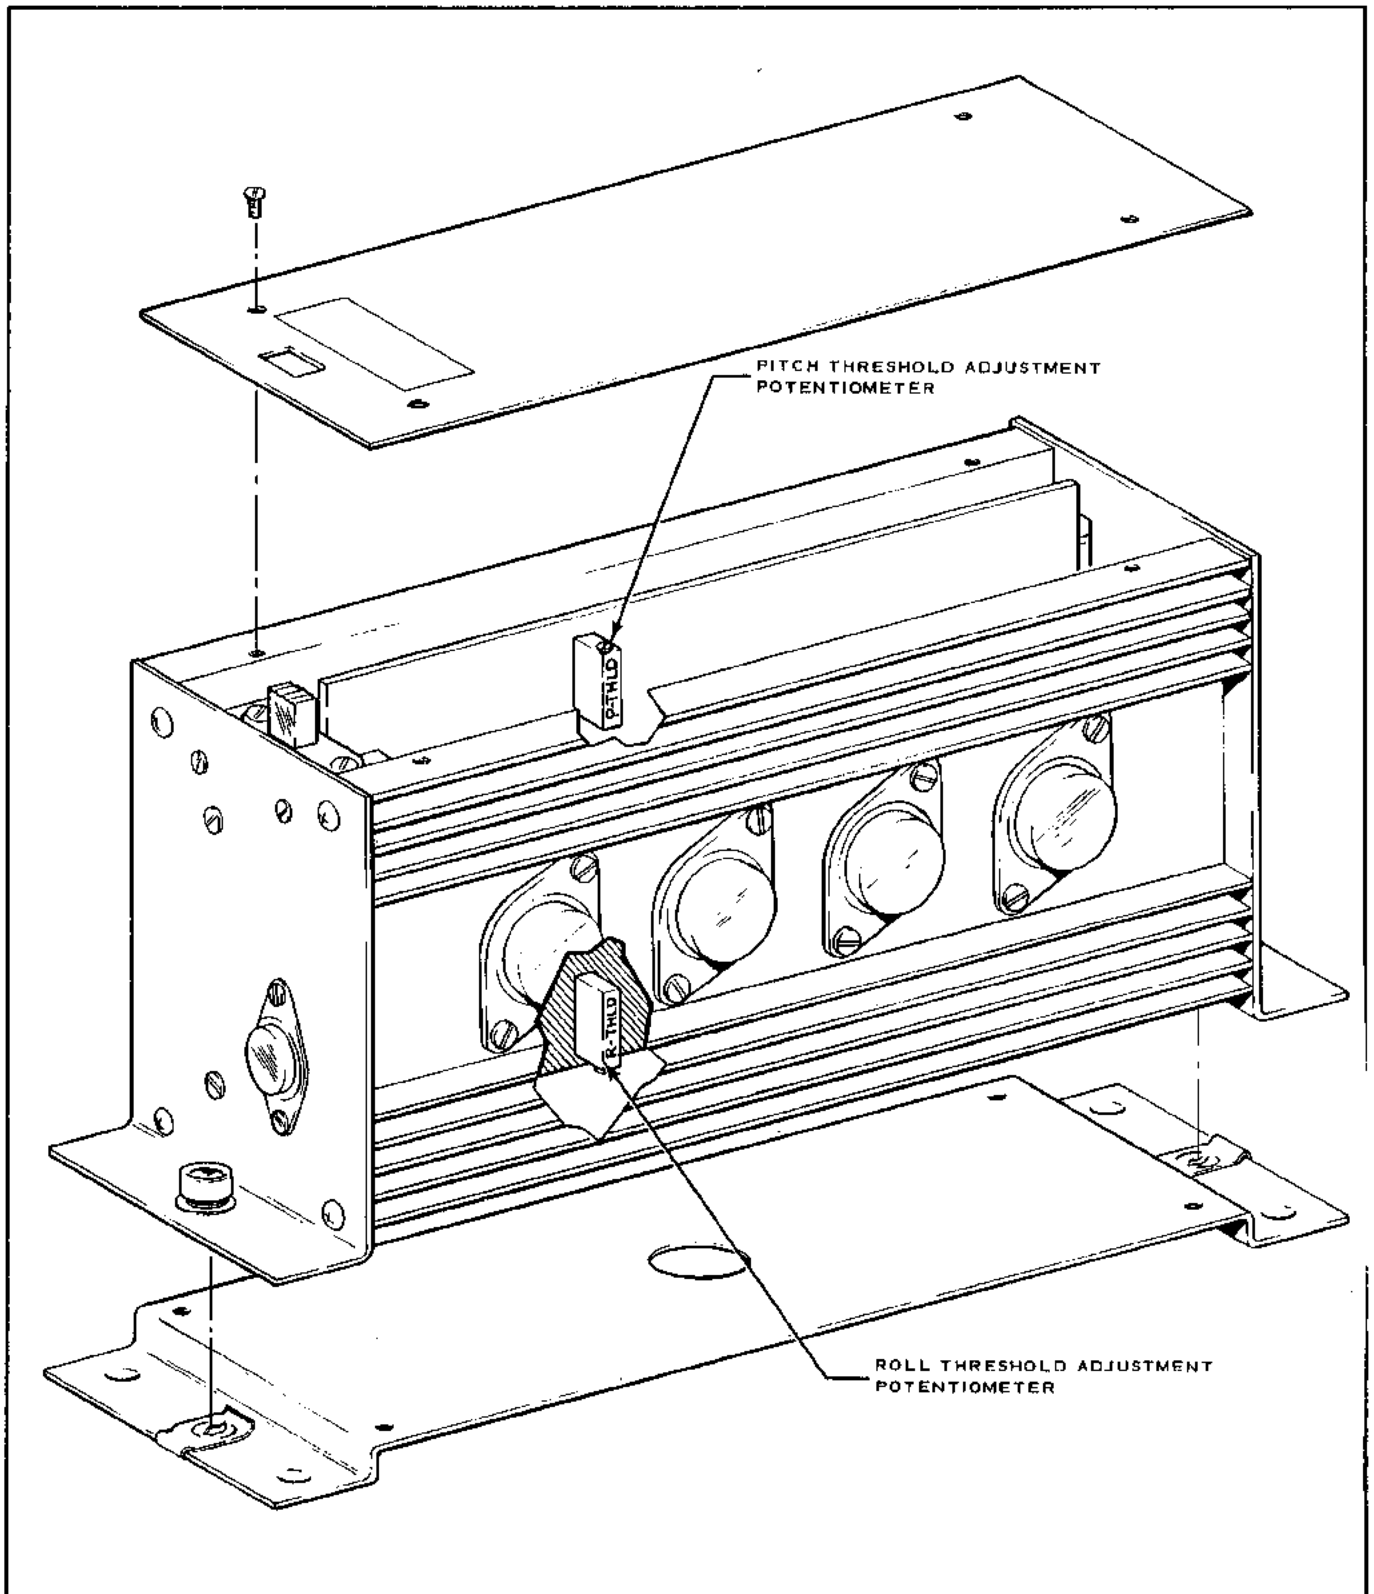

Figure 5-2. AltiMatic IIC, 1C515-1/1C515-3 Amplifier
Remove the base plate from the bottom of the amplifier to gain access to the roll threshold adjustment potentiometer. (Refer to Figure 5-2.)
13. Rotate the **LARGE VERNIER CONTROL KNOB** on Gyro Substitute Test Box, **COUNTERCLOCKWISE** for a one (1) degree left bank.
15. If voltage setting is correct proceed to next step. If voltage setting is incorrect find the Roll Threshold Adjustment Potentiometer, located on the lower section of the amplifier printed circuit board (refer to Figure 5-2), and adjust to obtain an average of the voltage settings listed in Table V-I by repeating Steps 11 thru 14.
Remove the cover plate from the top of the amplifier to gain access to the Pitch Threshold Adjustment Potentiometer. (Refer to Figure 5-2.)
16. If voltage setting is correct proceed to next step. If voltage setting is incorrect find the Pitch Threshold Adjustment Potentiometer, located on upper section of amplifier printed circuit board, (refer to Figure 5-2) and adjust to obtain an average of the voltage setting listed in Table V-II by repeating Steps 12 thru 15.